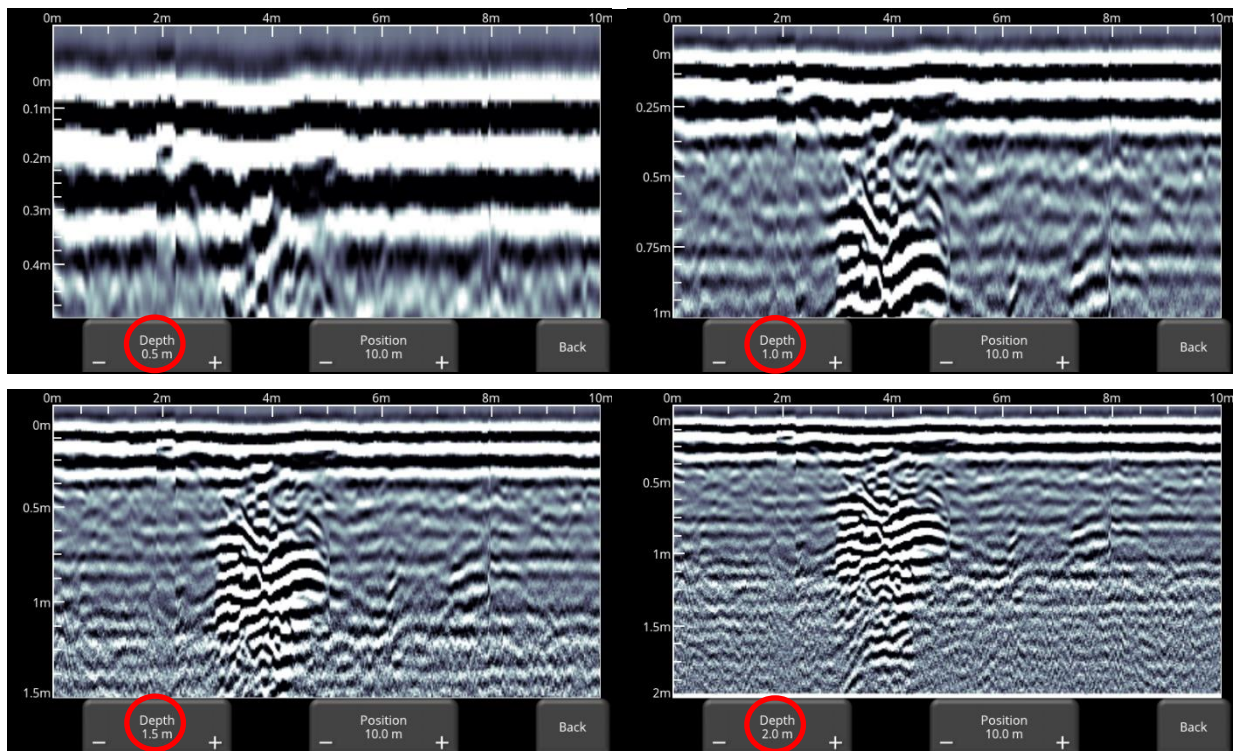

Figure 6-8: Varying displayed depth
- **Depth** – Pressing **+** and **-** under the **Depth** button allows you to change the display depth of the data. This is commonly referred to as the depth window. The pre-set values range from 0.5m to 2m (2' to 8'), see Figure 6-8.